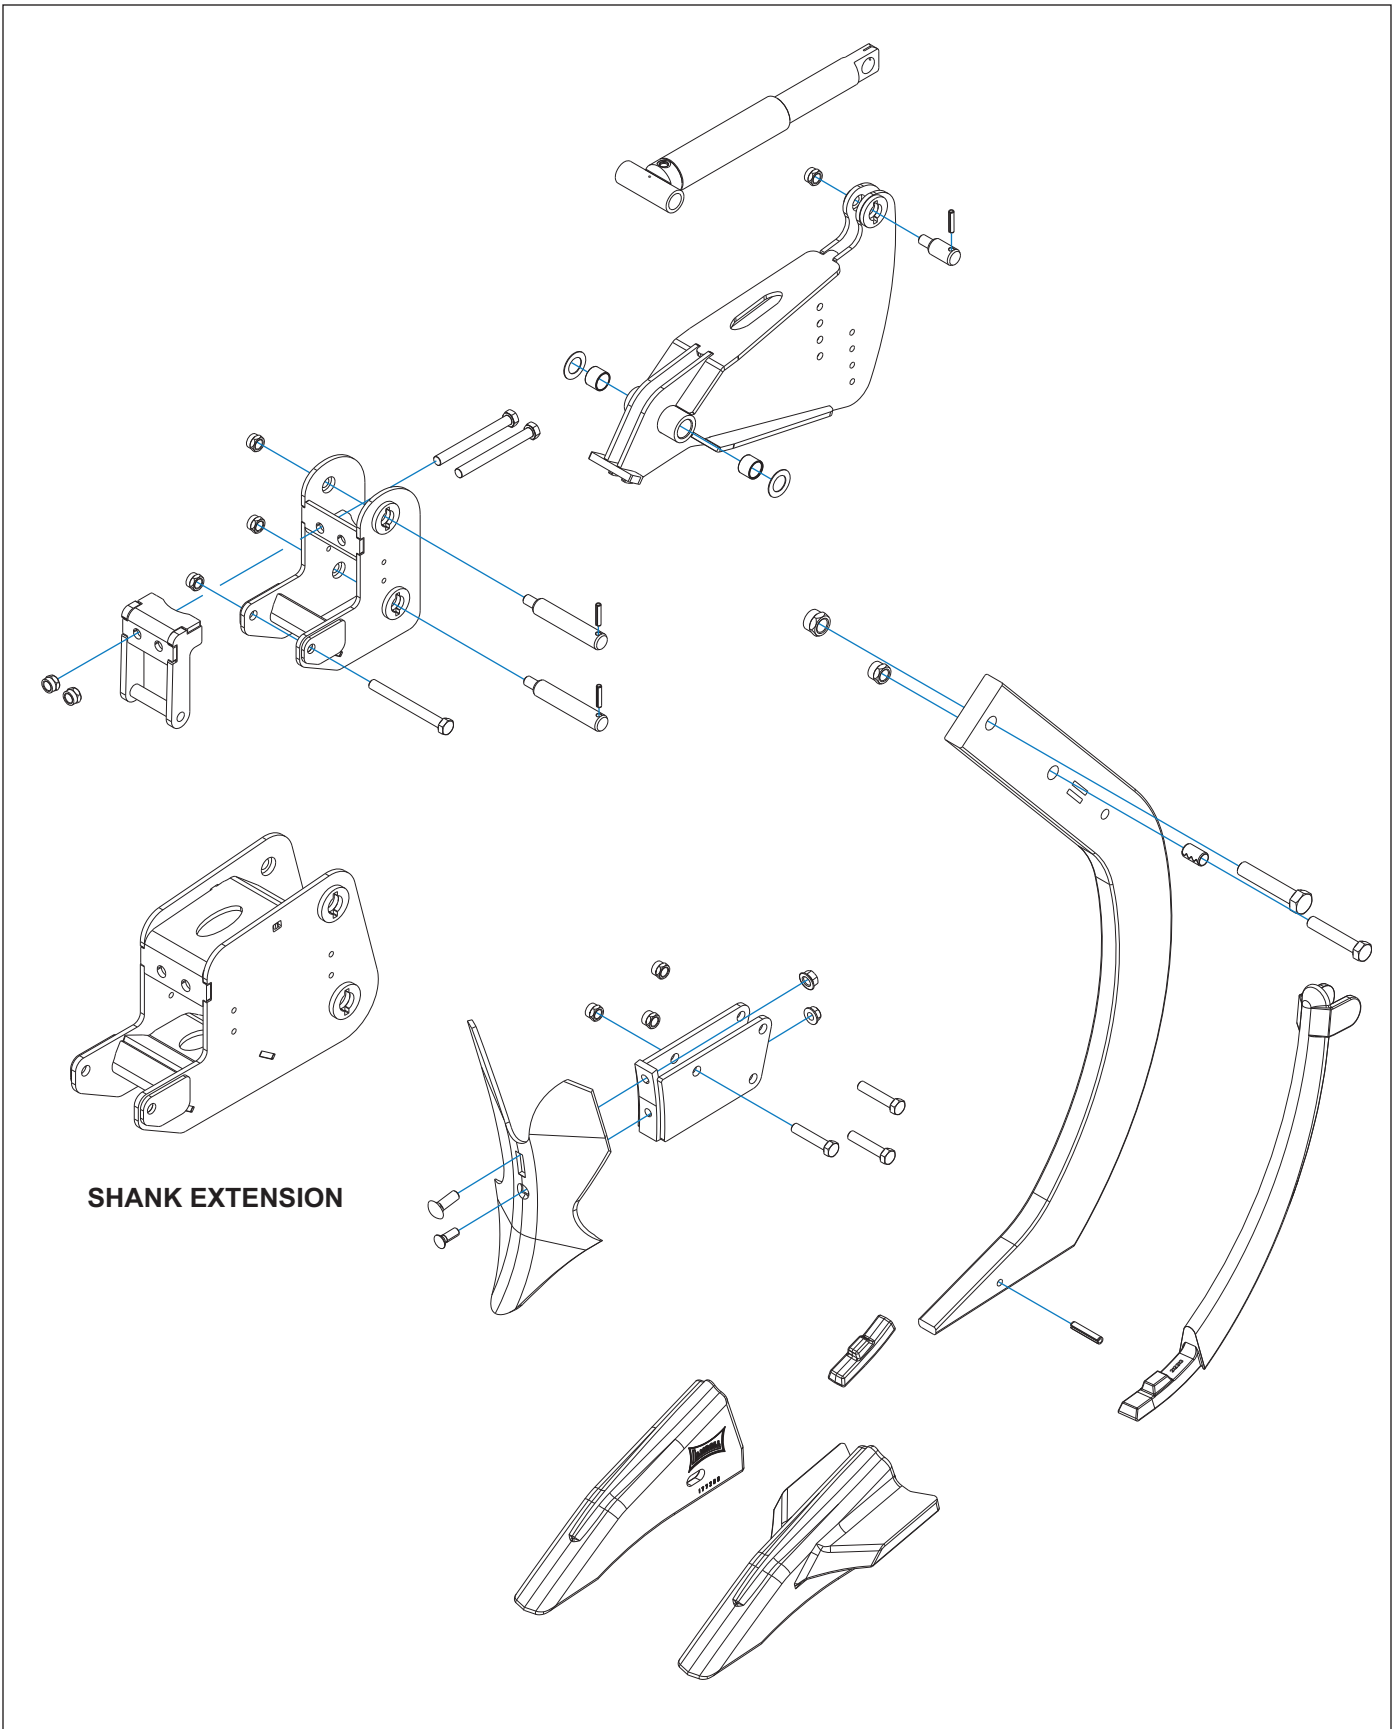

Figure 3-3: Hydraulic Reset Option w/parabolic shank and coverboard
1. Insert three 1/2-13 x 2-1/2 hex screws into the coverboard bracket before attaching the coverboard furrower. (See Figure 3-3) Secure with 1/2-13 nuts and tighten only so that locking portion of nut engages the thread. The customer will tighten these nuts after mounting to shank.